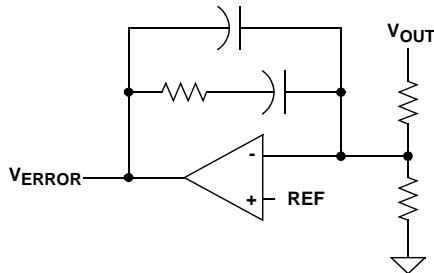

FIGURE 8. TYPE 2 ERROR AMPLIFIER
The loop compensation is placed around the Error Amplifier (EA) on the secondary side of the converter. The primary side amplifier located in the control IC is used as a unity gain inverting amplifier and provides no loop compensation. A Type 2 error amplifier configuration was selected as a precaution in case operation in continuous mode should occur at some operating point (Figure 8).